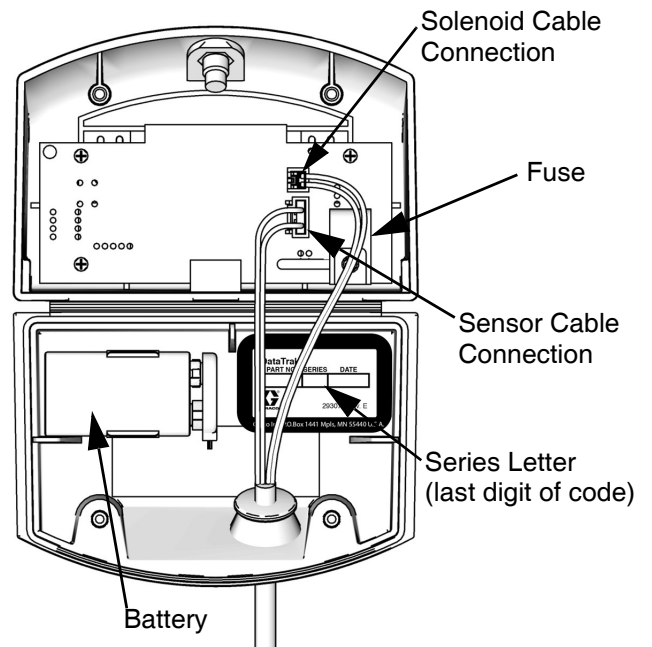

FIG. 40: DataTrak Battery and Fuse Location
5. Disconnect the used battery and replace with an approved battery. See **Figure 40**.
* **Figure 40** shows where to find the Series letter.